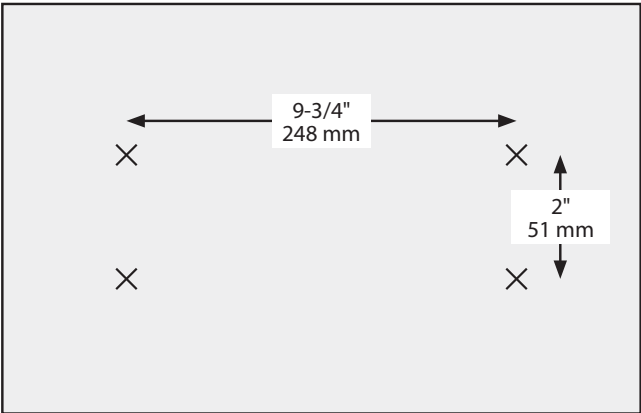

FIG. 3
- 3** Using appropriate fasteners for the wall type you are installing your system onto, drill and install fasteners into the wall at all marked locations [FIG. 3].